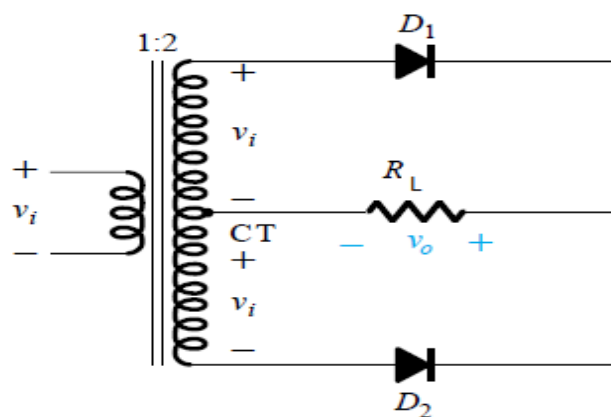

Figure 8.2
4. Repeat the above steps for full wave rectifier where the circuit of full wave rectifier is shown in figure 8.2.